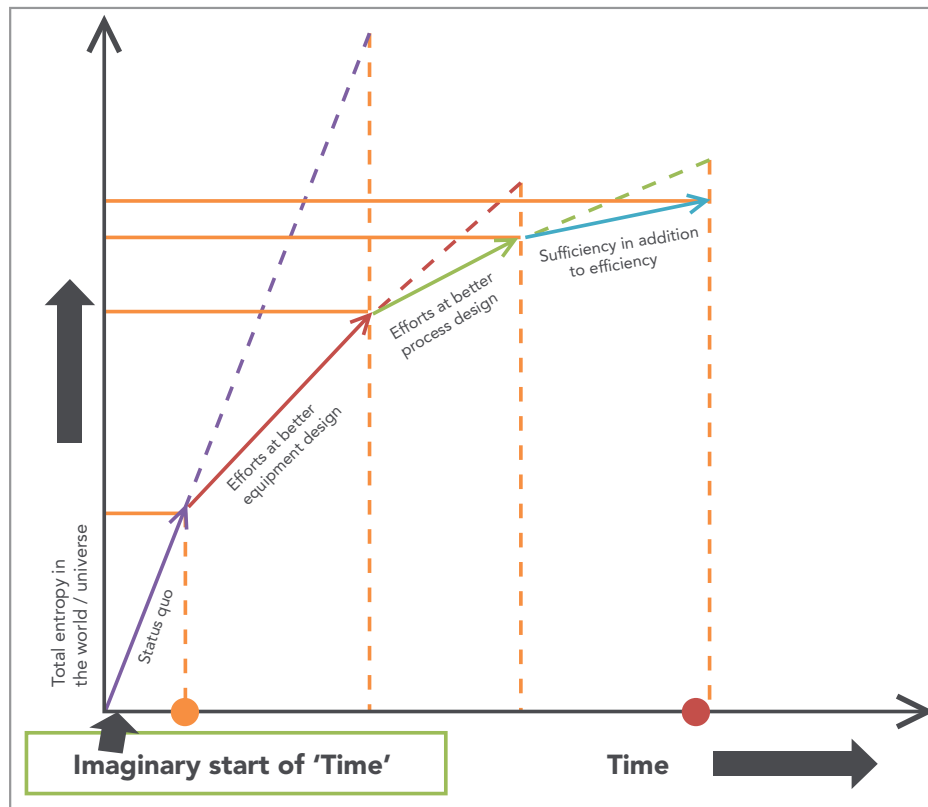

Figure 11.1: Entropy is rising...can we do something about it?
Now, you know what entropy means. You also know that the total entropy in the universe keeps increasing. Entropy is disorder. Environmental damage or lack of environmental upkeep is also a disorder. Any disorder needs to be curbed and if it is increasing, the rate of increase has to be decreased. Let us use entropy as a proxy for environmental damage (see Figure 11.1) and try to understand forecasting and backcasting...understanding something with the help of something else often makes understanding gloriously easier.
Let us assume an imaginary start in time, at which entropy in the universe/world was zero. We assume a linear increase in entropy with time (though this is a gross oversimplification, and it is also questionable if entropy can actually be measured and recorded thus) – the violet line in the Figure 11.1. The blue circle on the X-axis represents the time when you decide to sit up and take stock – forecast and back-cast in other words. You fix a time in the future represented by the red circle on the X-axis. If you extend the violet line upwards, you would have a measure of the entropy if current trends continue unabated. Now, you wish to bring the total entropy down in the year depicted by the red circle, to a value corresponding to the tip of the blue arrow. That is a daunting task, as you see right away! When you made the forecast, you assumed a linear increase in entropy with time. You know where you will be if you did nothing at all. You know where you wish to be, and for that, you have to do something, or actually, several things! Now, it is time for back-casting. You see the farthest target in terms of two nearer ones, as shown – the tips of the green and red arrows in Figure 11.1. You have now fixed three time intervals and three target-points to aim for. The paths traced within these intervals may not be straight lines...they also need not be smooth curves. Having done this, you would decide the *modus operandi*. Often, you may find that it is impossible to just resort to better equipment design to bring about the drastic change represented by the difference in slopes of the violet line and the red line. You may have to add doses of ‘better process design’ and ‘sufficiency’ to the recipe. And this may apply for the next two intervals as well. But as you will agree, stronger the enemy, wiser it would be to fight it as a team. The more daunting the challenge, wiser it is to surmount it with a ‘team of solutions’ and not any one in isolation.
1. Can you try to measure your own environmental footprint? Say, just your carbon footprint to begin with (your contribution to global warming, that is). Now, is it possible for you to forecast how your cumulative contributions would increase with time – say over the next decade? Having done that, can you set some target for yourself (of course, you should want to reduce pull the curve down vis-à-vis the forecast 'Living-As-Usual' scenario. Then back-cast and decide how you would go about truncating your carbon footprint. You can work in groups of two and then compare your analyses. Figure 11.1 could serve as a base to start working from...